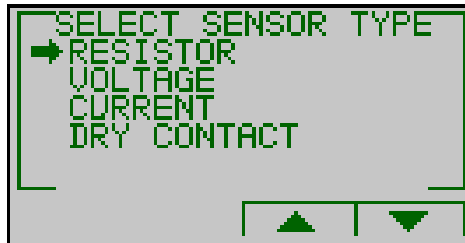

Figure 4-7. **Select Sensor Type**
5. Pressing F1, "TYPE", will enable you to select the sensor type from a list as described in figure 4-7.